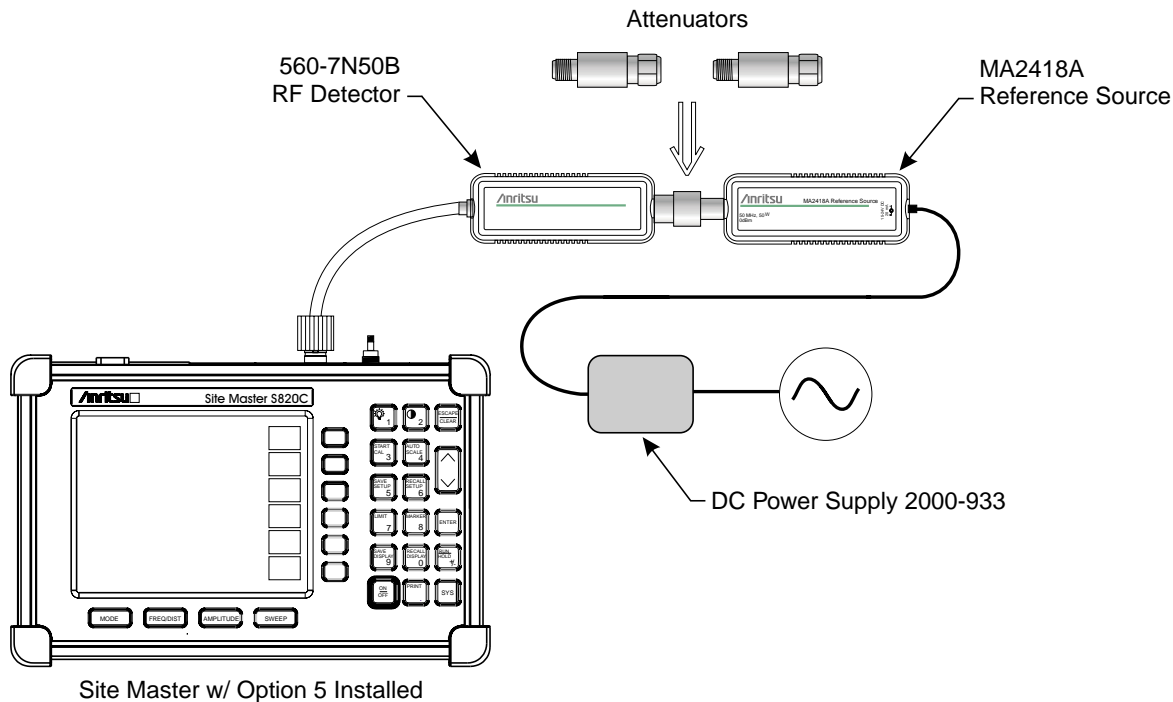

Figure 3. Power Monitor Verification
1. Connect the DC power supply to the MA2418A Reference Source (Figure 3).
10. Connect the output of the MA2418A Reference Source to the two attenuators so as to add 40 dB of attenuation (Figure 3).